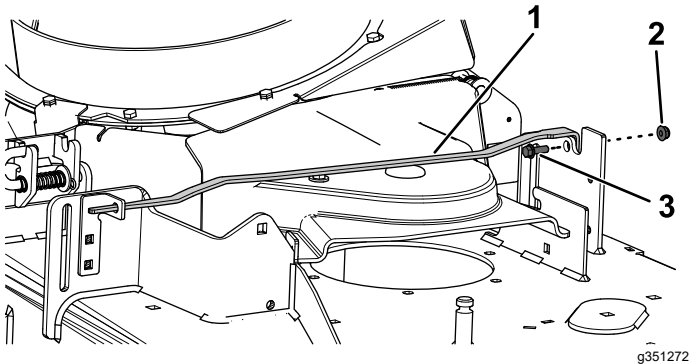

Figure 13
2. Secure the rod using 1 flange-head bolt (1/4 x 3/4 inch) and 1 locknut (1/4 inch) as shown in Figure 13.